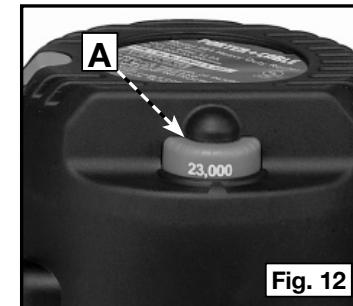

Fig. 12
This router is equipped with a variable speed control (A) Fig. 12 with an infinite number of speeds between 10,000 and 23,000 RPM.